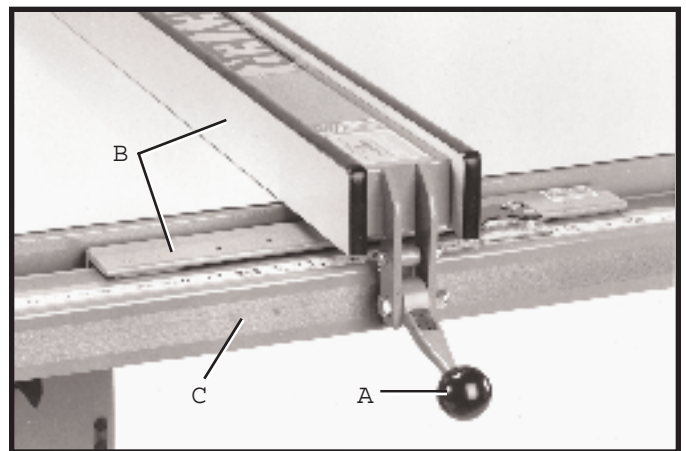
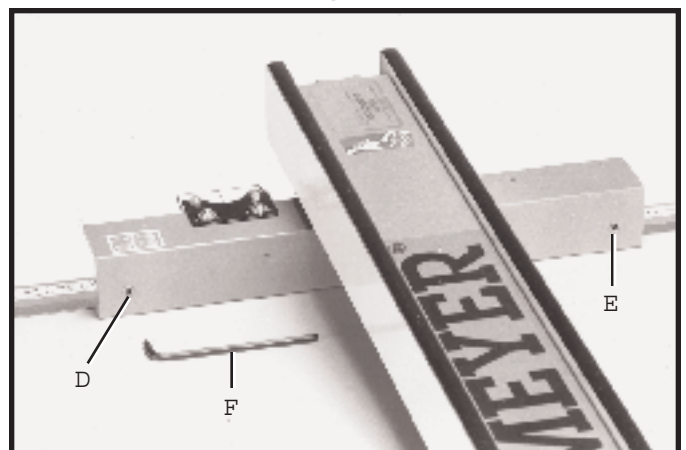

Fig. 29
Fig. 30
When the fence locking handle (A) is pushed to the down position, as shown in Fig. 29, the fence assembly (B) should be completely clamped to the guide tube (C). If the fence assembly (B) is not completely clamped to the guide tube (C) when the handle (A) is pushed down, as shown in Fig. 29, lift up handle (A) and raise fence assembly (B) up off the guide tube (C). Slightly tighten the two adjusting screws (D) and (E) Fig. 30, using the 3/16 allen wrench (F) not supplied. Adjusting screws (D) and (E) Fig. 30, should be tightened an equal amount. Replace fence onto the guide tube and re-check to see if the fence assembly (B) Fig. 29, is completely tightened to the guide tube (C) with the locking handle (A) pushed down. Adjust further if necessary. **IMPORTANT: AFTER ADJUSTING THE CLAMPING ACTION OF THE FENCE LOCKING HANDLE, CHECK TO SEE IF THE FENCE IS PARALLEL TO THE MITER GAGE SLOT AND ADJUST IF NECESSARY.**